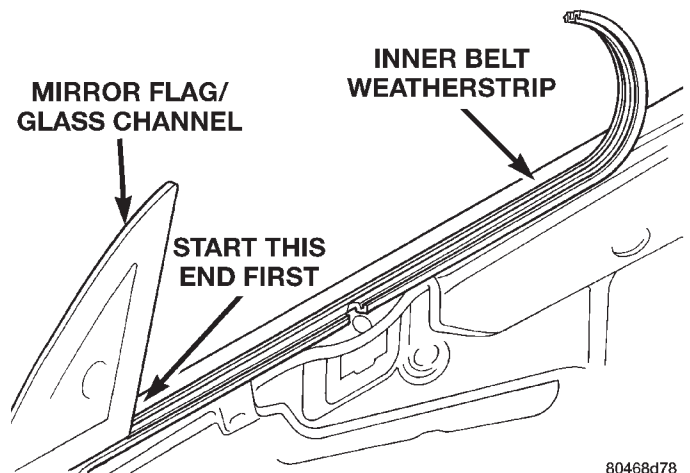

Fig. 36 Door Inner Belt Weatherstrip
- (1) Remove door trim panel.
- (2) Pull upward on rear edge of inner belt weatherstrip (Fig. 36).
- (3) Separate weatherstrip from vehicle.